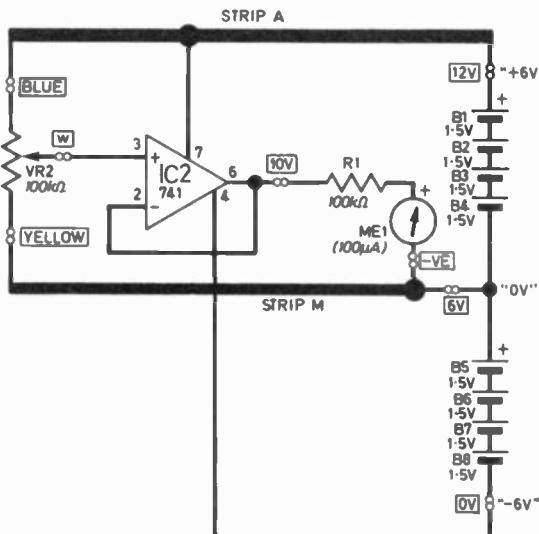

Fig. 7.14. Circuit for investigating the action of an op-amp voltage follower, Expt. 7.2.
Operational amplifiers are very high-gain amplifiers ( $\times 200,000$  for example) which usually come in the form of integrated circuits. They normally work on a dual power-supply, as in Fig. 7.14, where we split the 12V battery supply to provide +6V and -6V.
In Fig. 7.14 the output of IC2 is fed back to the inverting input. VR2 acts as a potential divider to provide a variable voltage source of between 0V and  $+6V$ . The layout for this experiment is shown in
- 7.8. If pin 3 (Fig. 7.14) is taken to -3.5V, what will be the output at pin 6?